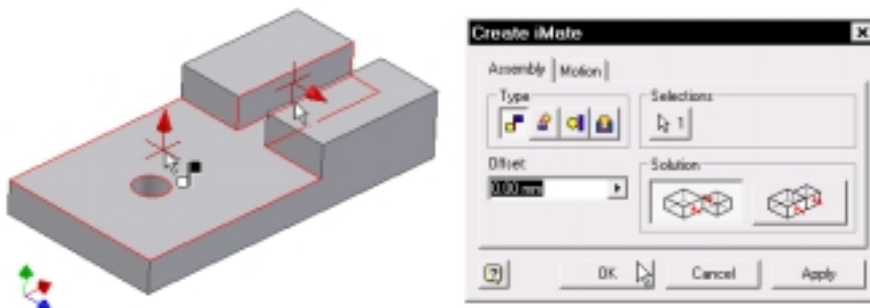

Figure 3-24
2. With reference to Figure 3-24, construct two iMate constraints. Because it is essential that the sequence of iMate constraints in one composite iMate must match the sequence of iMate constraints in another composite iMate, here you should apply iMate to the horizontal face first and then to the vertical face.